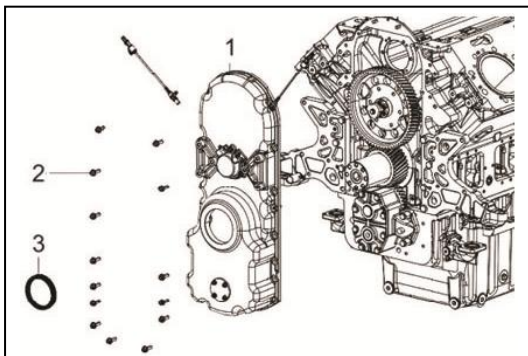

Figure 148
4. Install the front-end cover (Figure 148, 1) to the engine block. Pay attention to the locating pin.
5. Apply Loctite sealant 242 to the threads of the bolts (Figure 148, 3). Tighten the bolts to recommended torque.
6. Install the front oil seal (Figure 148, 4).